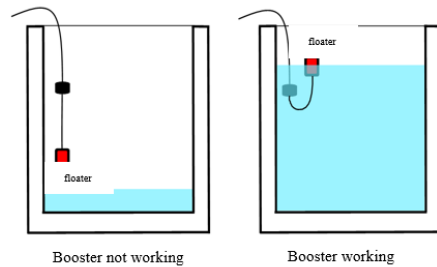

Figure 3.4 Floater operation status
- ❖ The installation described above is valid for applications where the water tank is at the same level or higher than the booster. In applications where the water tank is lower than the booster and the booster operates by suction, the cable of the level switch should be fixed on the suction pipe and the level switch should be adjusted so that it remains 15-20 cm higher than the suction flap in the sagging position. If the water in the tank falls below the set switch level, the operation of the booster is automatically prevented. (Figure 3.4).